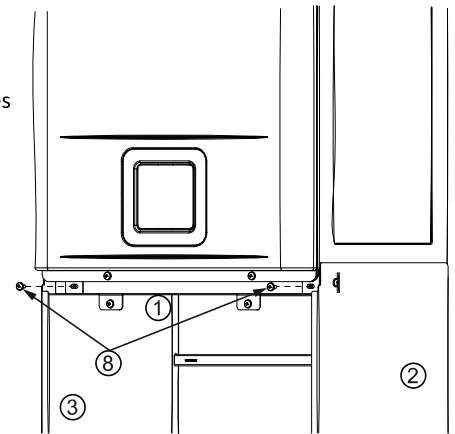
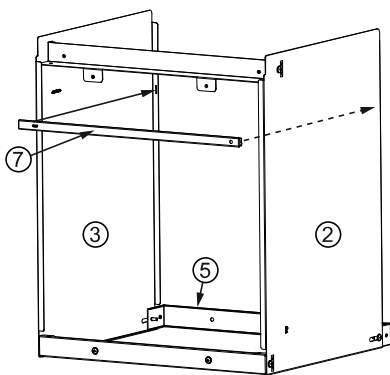

Figure 3 - Attaching to the water heater.
Figure 4 - Securing the back bracket to the wall.
11. Place the assembly's top bracket (1) BEHIND the mounting tabs at the bottom of the water heater. See Figure 3.
12. Align the clearance holes, then secure the assembly with the short screws (8). See Figure 3.
13. Push the assembly back until it is flush with the wall. Mark the wall through both clearance holes in the fixing plate (5).
16. Install the wall anchors (10) into the screw holes.
17. Reinstall the pipe cover assembly onto the water heater with the short screws (8). See Figure 3.
18. Secure the pipe cover assembly to the wall by installing the long wall screws (9) through the holes in the fixing plate (5).
19. Hang the back bracket (7) on the inside of the assembly as shown in Figure 4. The tabs on the back bracket fit into the slots on the back, right and left side covers (2), (3). See Figure 4.
21. The pipe cover assembly can be aligned vertically by adjusting the bottom back bracket (5). Loosen the short screws (8) on either side and re-tighten once the desired alignment is set. See Figure 4.